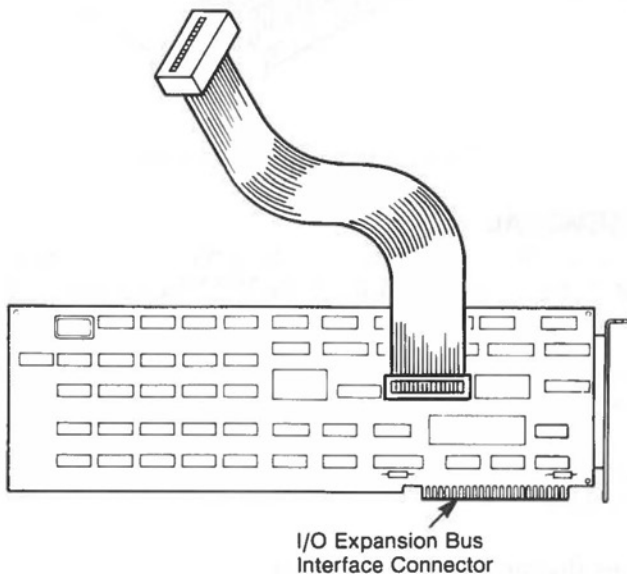

Figure 3-7 Feature Cable Attachment
7. If the feature you are installing has a cable to be attached to the controller board, then connect it at this time (see Figure 3-7).
4. Disconnect any cables leading from the board to another connection (refer to Figure 3-7).